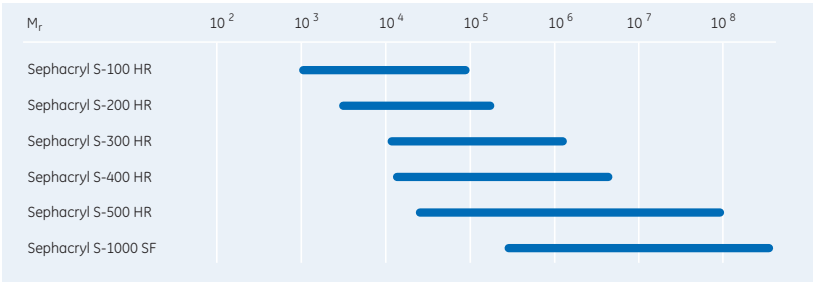

Fig 4.1. Fractionation ranges for Sephacryl HR.
Sephacryl High Resolution (HR) media provide a useful alternative to Superdex prep grade for applications that require a slightly broader fractionation range, as shown in Figure 4.1. High chemical stability and tolerance of high flow rates make Sephacryl well suited for industrial use.